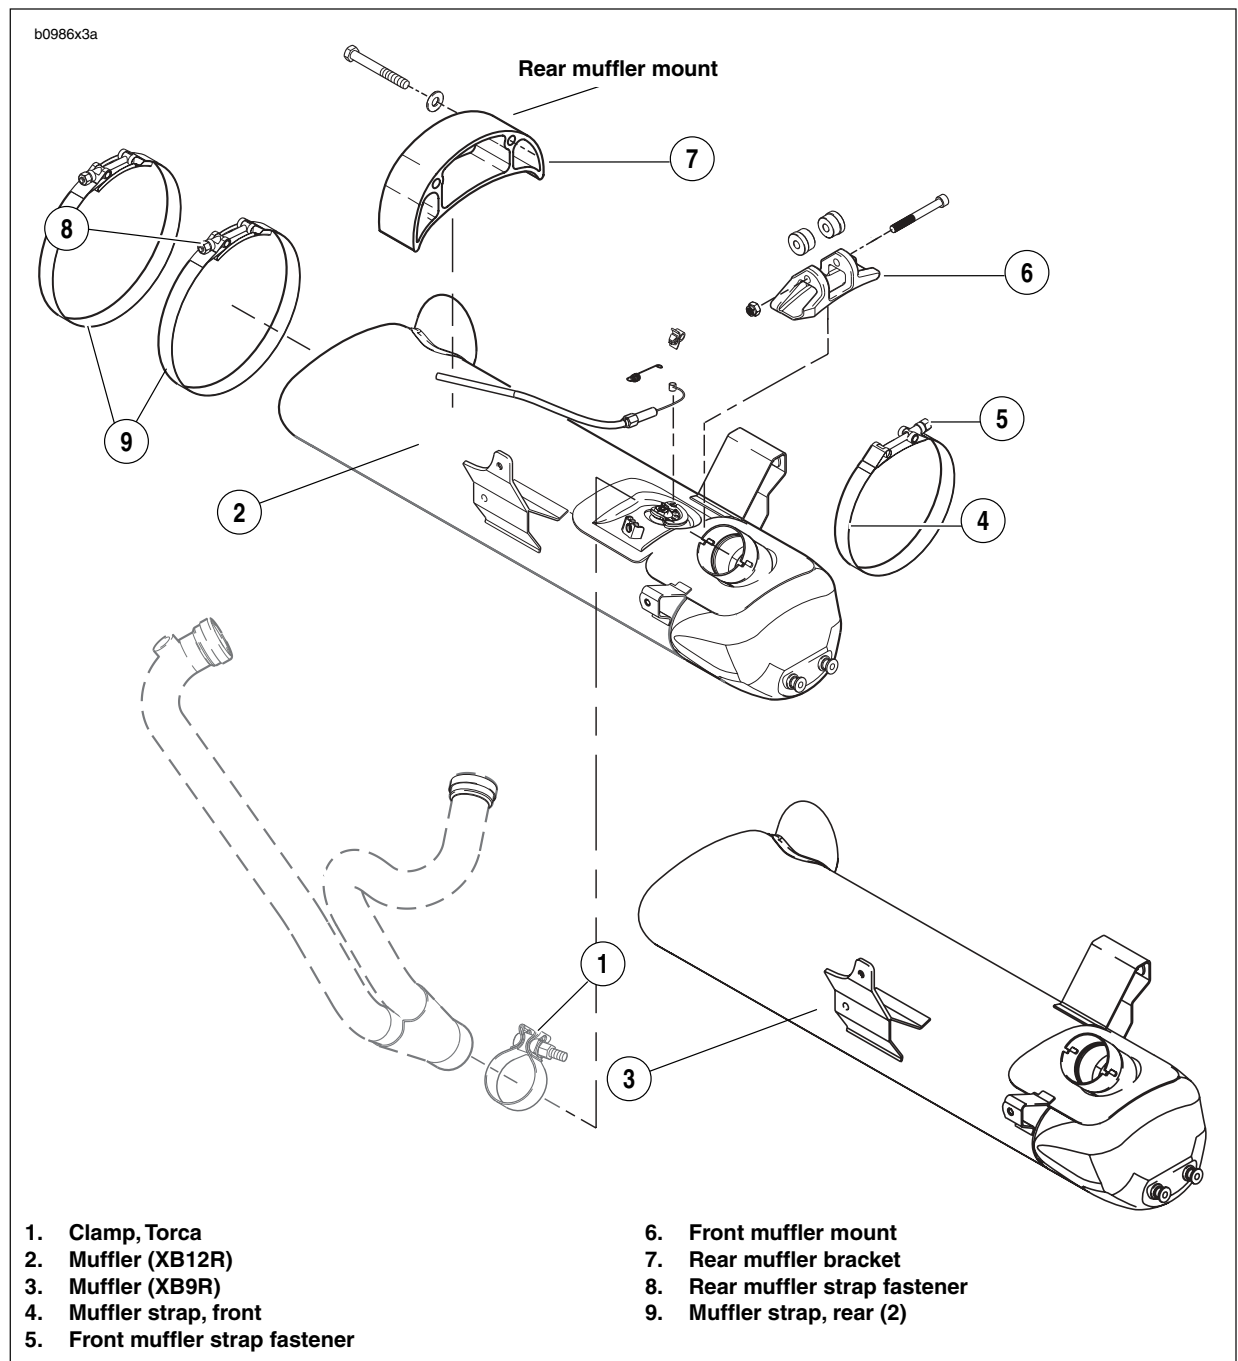

Figure 3-44. Muffler Mounting System (XB12R) and (XB9R)
19. See Figure 3-44. Apply LOCTITE 271 (red) to rear muffler bracket fasteners, install and tighten to 32-36 ft-lbs (43.4-48.8 Nm).